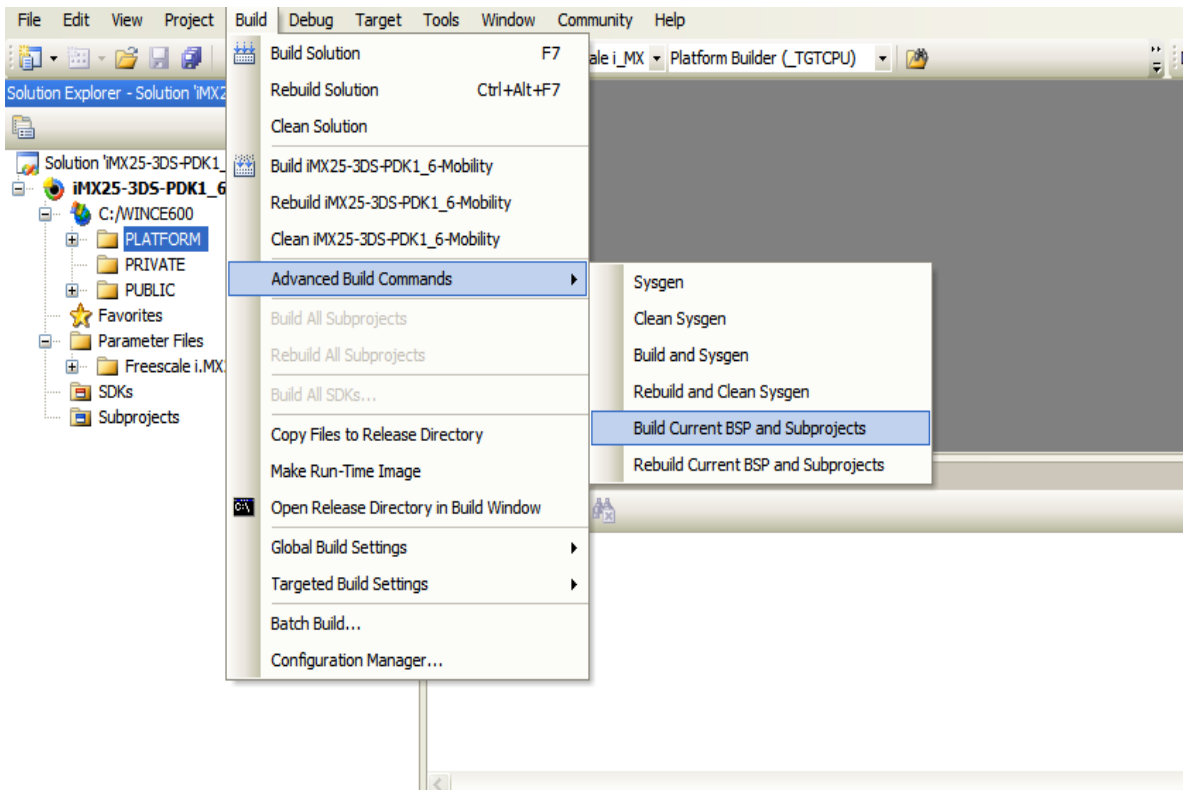

Figure 4. Building Current BSP and Subprojects
4. On platform builder, go to Build > Advanced Build Commands > Build Current BSP and Subprojects as shown in Figure 4. This process builds the image, the boot loader, and the XLDR.
Figure 4 shows how to build the project.